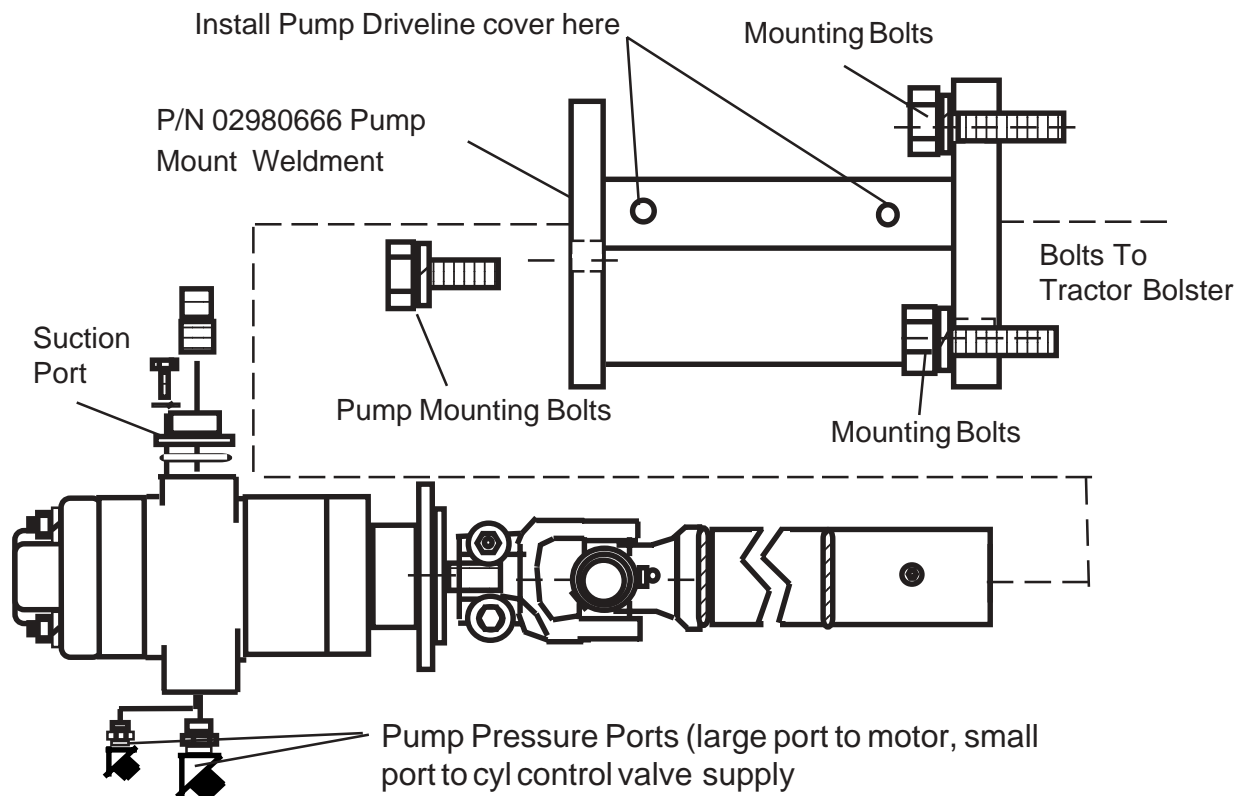

Figure 6
1. Install Pump to Pump Mount Weldment. The Pump has the tube half of driveline attached and clamp yoke tightened. To install the pump and driveline half it is best to use an assistant or overhead hoist to help you align the drivelines halves as they are slid together, the Driveline **must** be timed (universal joints aligned the same) as shown in the pump & driveline schematic on (See Figure 6, 7, 8 & 9). Slide Driveline half and pump together until the shoulder on the pump slide in the hole on the pump mount weldment.
When installing the pump always keep ports sealed to keep them clean and free of contamination. The pump **MUST** be turned correctly. The suction Port (side with single port must be to the left side (sitting in tractor seat) so the suction hose will connect to it. The dual port side will be to the right side of tractor (as sitting in tractor seat). The top port on the right side is for the pressure feed to the motor on the cutting head. The bottom port on the right side is the pressure supply for the cylinder control valve. (See Figure 6).
1. Install Pump Driveline Cover. The Pump Driveline will have a cover (P/N 02980398) which retained by four 1/4" X 3/4" bolts (P/N 00021400), four 1/4" flatwashers (P/N 00024100) and four 1/4" lockwashers (P/N 00017000), install and tighten these now (See Figure 6).